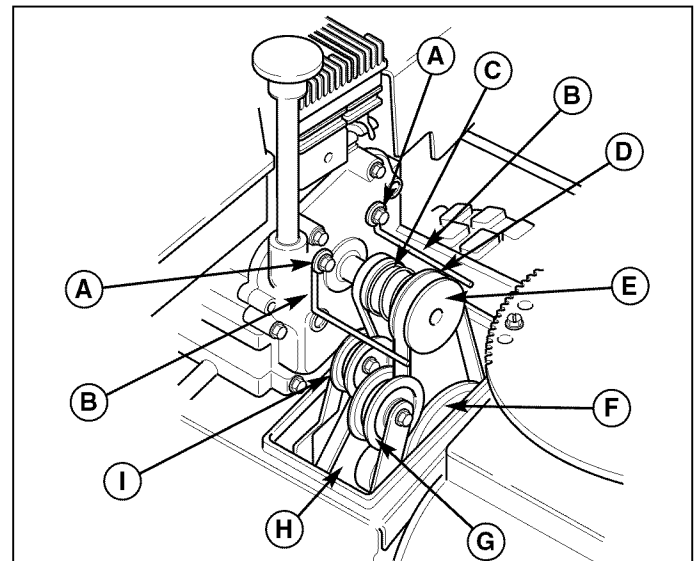

Figure 28. Belts and Pulleys
3. Move the belt guides (B, Figure 28) by loosening the two capscrews (A).
- a. Slip the auger drive belt (D, Figure 28) from the idler pulley by pushing it away from the pulley and then toward the rear.
- a. Pull the idler pulley (I, Figure 28) away from the belt and slip the belt from the pulley.
- b. Slip the belt off the traction pulley and then the engine pulley. The arm for the front idler pulley (G, Figure 28) may have to be pivoted to provide clearance for removing the belt from the traction pulley.
- c. Pull the belt out between the auger pulley (F, Figure 28) and traction pulley.